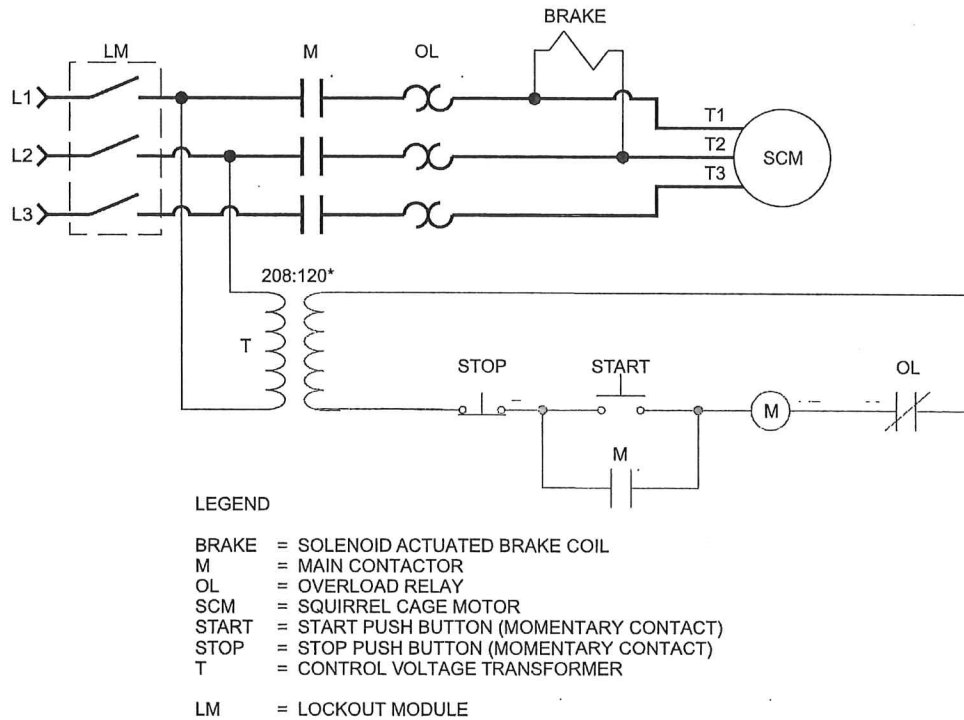

Figure 3 - Motor Starter Circuit with Friction Brake
Build the circuit as shown in figure 3 such that the start and stop pushbuttons operate BOTH the electric motor and the electric brake.
1. Wire the motor using the FRICTION BRAKE and Main Contactor as shown in Figure 3.